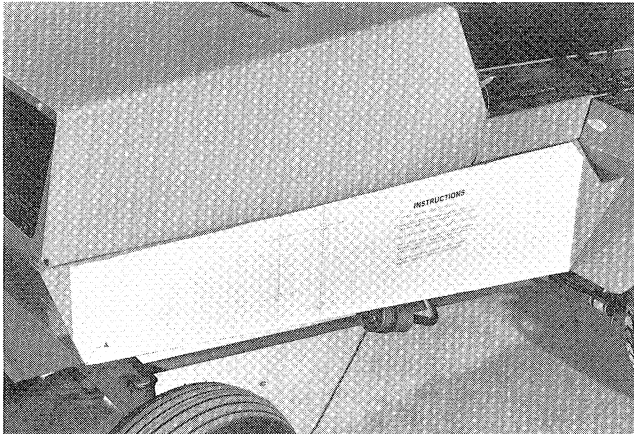

Figure 1
1. Cut out template and tape to right side of machine (Fig. 1).